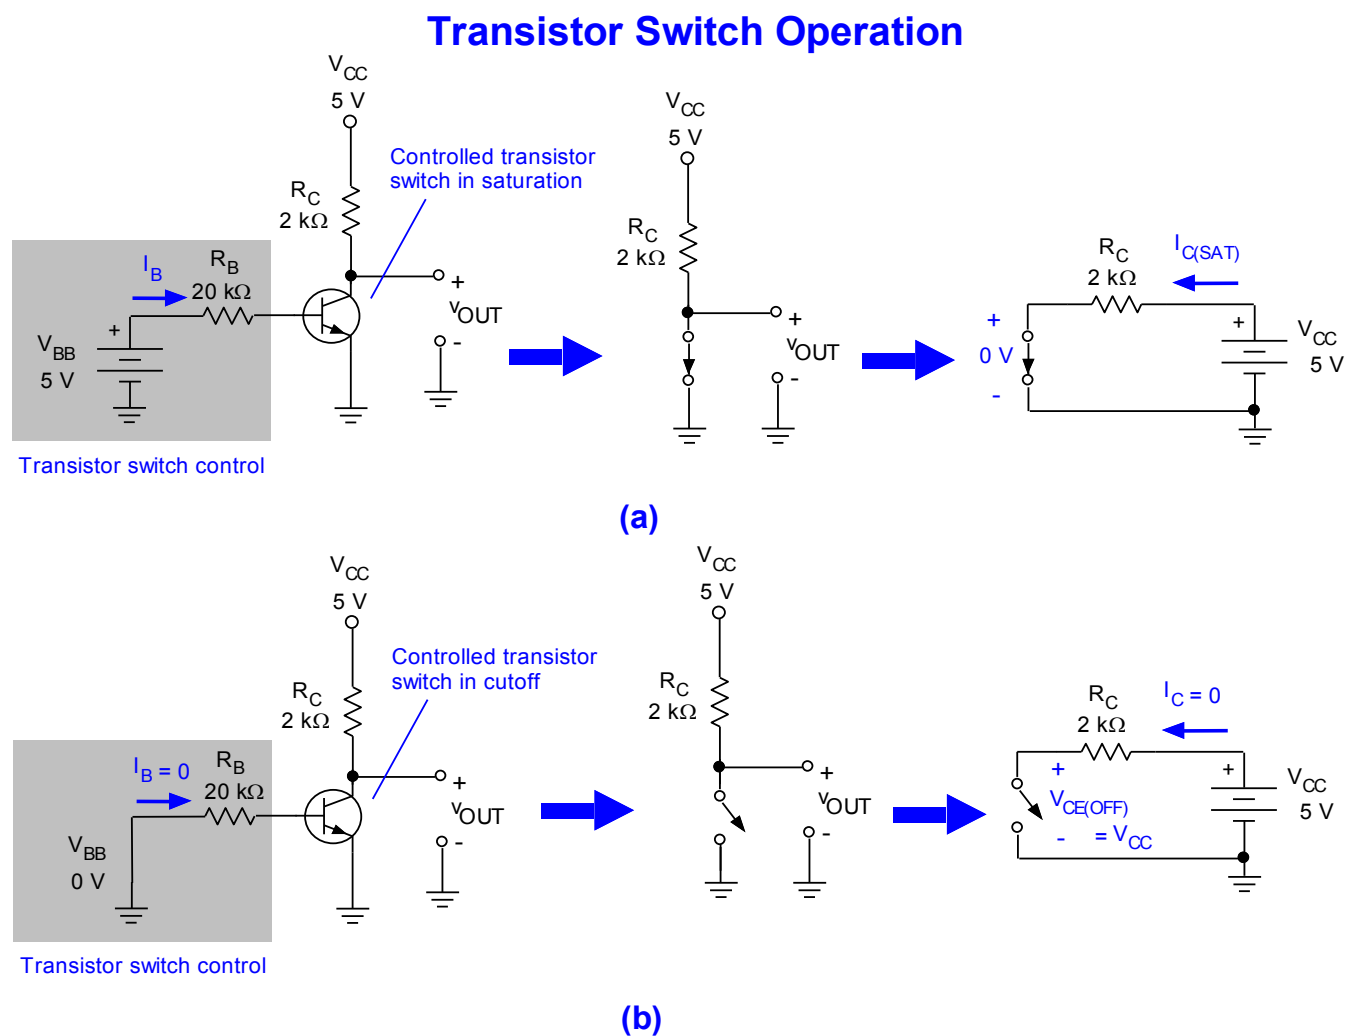

Figure 5-33.
As mentioned previously, when a BJT is in saturation (ON) it behaves like a closed switch. When a BJT is in cutoff (OFF) it acts like an open switch. This is depicted in Fig. 5-33.
Example 5-9. Perform a DC analysis of the transistor circuit given in Fig. 5-33(a). The BJT has a β_{DC} of 100. Also determine $I_{C(SAT)}$ and $V_{CE(OFF)}$. Repeat the analysis for Fig. 5-33(b).
In Fig. 5-33(b) the BJT's base current is zero. This means its collector current must also be zero. The BJT is at the edge of its cutoff region. The transistor behaves like an open switch when in cutoff. It passes no current. Consequently, no voltage is dropped across the collector resistor R_C . Since Kirchhoff's voltage law must be satisfied, the BJT drops all of the collector supply voltage V_{CC} .